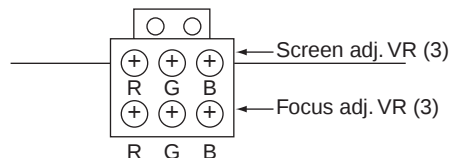

Fig. 2
4. Adjust the Red, Blue and Green focus VR on the focus block for best focus of overall picture of each CRT. (Fig. 2)
1. Cover the Red and Blue CRT, projecting Green only. The electrical focus controls are located on the front. Adjust the Green Focus VR for best focus of overall picture. (Fig. 2)